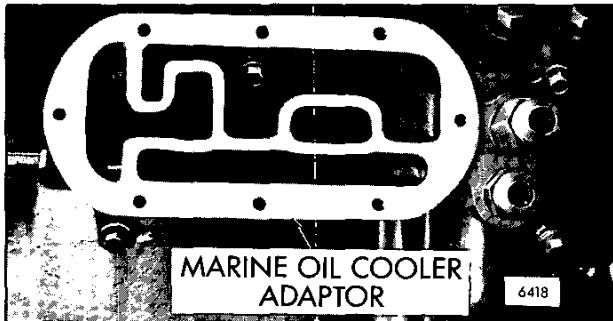

Fig. 3 Marine Engine Oil Cooler Adaptor (Lube Lines Disconnected)
6. If the adaptor is to be removed, the oil filters must first be removed. Marine oil coolers have remote filters and require that the lubrication lines be disconnected before removing the adaptor (Fig. 3). Then, remove the bolts which attach the adaptor to the cylinder block. Withdraw the adaptor and seal rings.